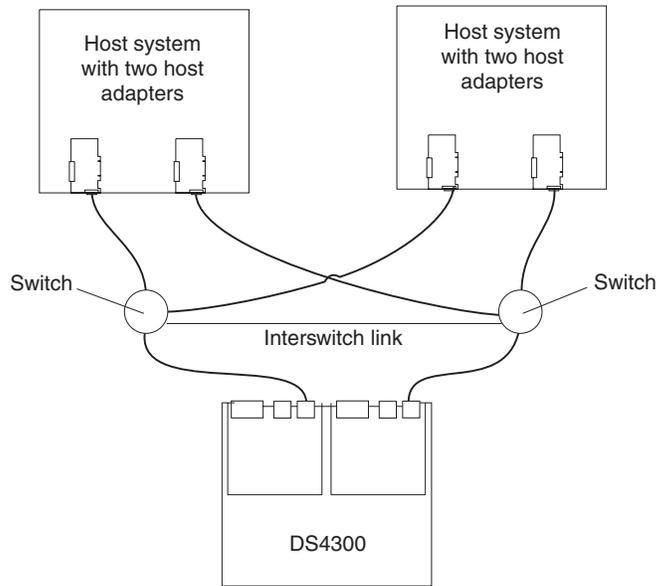

Figure 58. Example of a single-SAN fabric zone configuration (Model 60U/60X)
- Single SAN fabric zone configuration (Figure 58 on page 77)